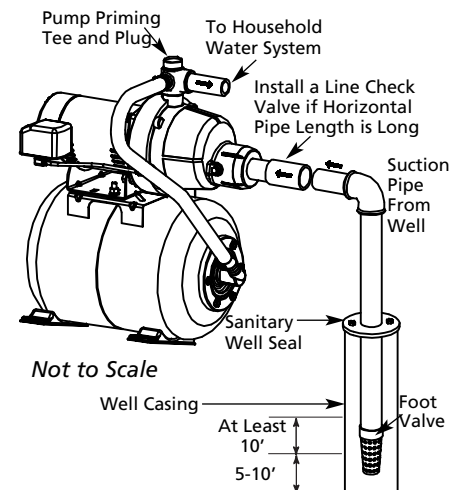

Figure 4 – Cased Well Installation
(see Figure 4)
2. Assemble the foot valve, strainer, and well pipe (see Figure 4). Make sure that the foot valve works freely.
4. Install a priming tee, priming plug, and suction pipe to the pump (see Figure 4, previous page). Connect the pipe from the well to the pump suction port, using the fewest possible fittings – especially elbows – as fittings increase friction in the pipe (however, include a foot valve – see Figure 4, previous page). The suction pipe should be at least as large as the suction port on the pump. The suction pipe should be at least as large as the suction port on the pump. Use PTFE tape or a PTFE -based pipe joint compound on threaded pipe joints. Support the pipe so that there are no dips or sags in the pipe, so it doesn't strain the pump body, and so that it slopes slightly upward from the well to the pump (high spots can cause air pockets which can air lock the pump). Seal the suction pipe joints with PTFE tape or a PTFE based pipe joint compound. Joints must be air- and water-tight. **If the suction pipe can suck air, the pump cannot pull water from the well.**